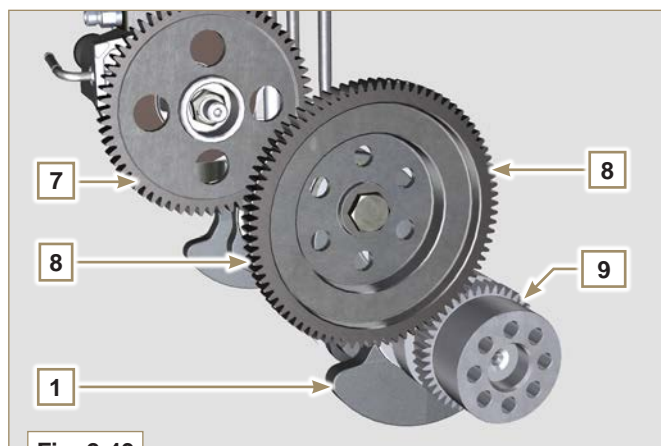
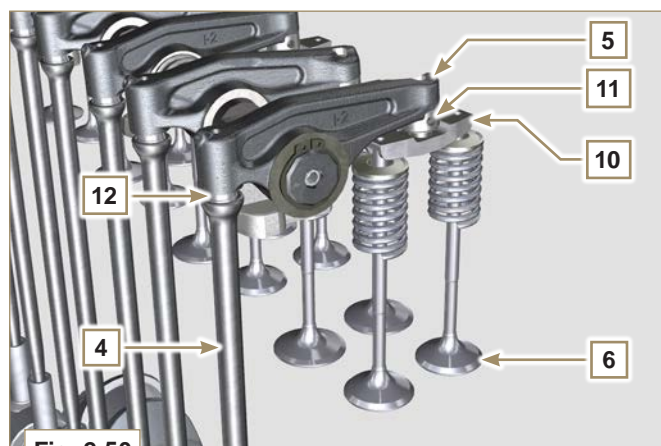

Fig. 2.49
Fig. 2.50
- It should be noted that the said values may be verified by rotating the crankshaft (**Pos. 1 of Fig. 2.50**), by means of handling the rocker arm control rod (**Pos. 4 of Fig. 2.49**).